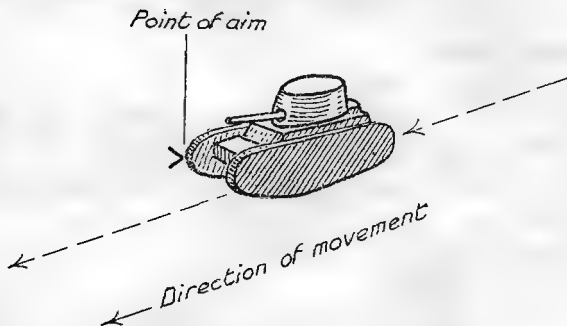

Fig. 7.
- (b) When moving diagonally across the front, *i.e.* closing in on your position, less "lead" is required and aim should be taken at the front edge (*see* Fig. 7).